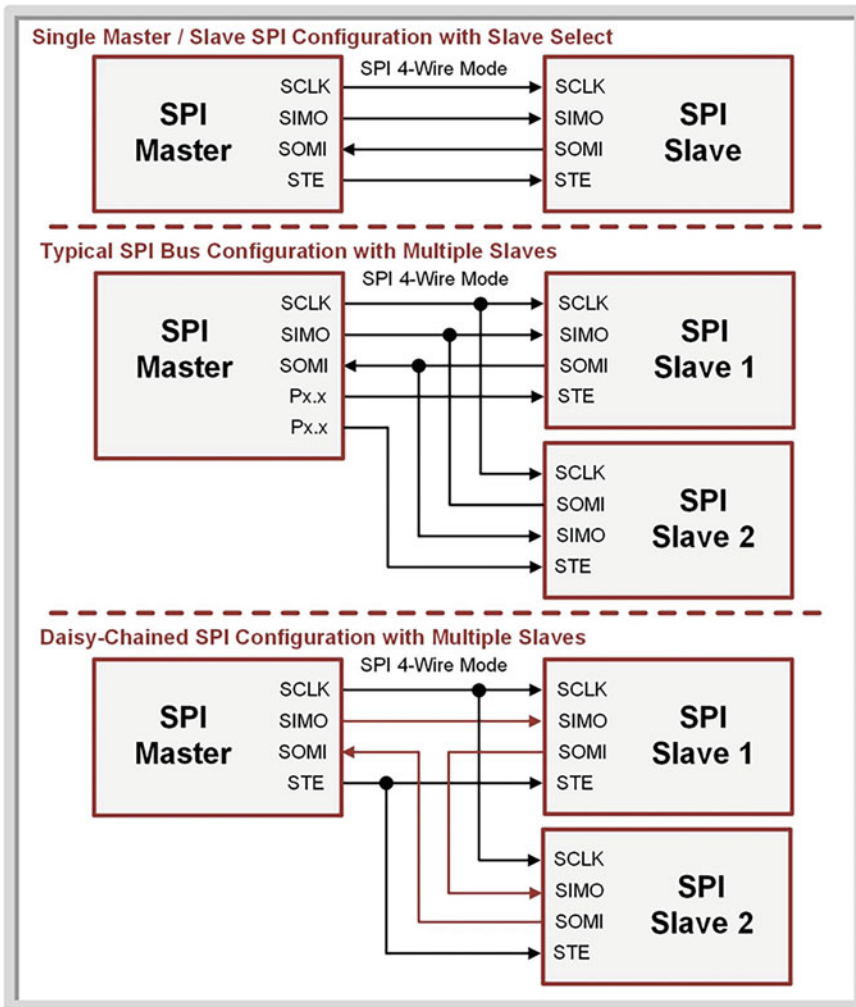

Fig. 14.20
When multiple slaves are used in the system, a *slave transmit enable* (STE) line can be generated by the master in order to dictate which slave is being communicated with. This is also called the *slave select* (SS) in some SPI devices. There are different topologies that can be used when communicating with multiple slaves. The first is a *bus configuration* in which the SIMO and SOMI lines are all shared between the master and slaves. Each slave is assigned its own STE. Only one slave is active at any given time. Once more than one STE is needed, the MSP430FR2355 user's guide recommends using port pins to create dedicated STEs. The second configuration is called *daisy-chained* where devices are wired to form a single, continuous data loop among all the SPI devices. In the daisy-chained configuration, the master counts the number of clocks that have occurred in order to track where in the loop the current data resides. Figure 14.20 shows SPI topologies that use STEs.